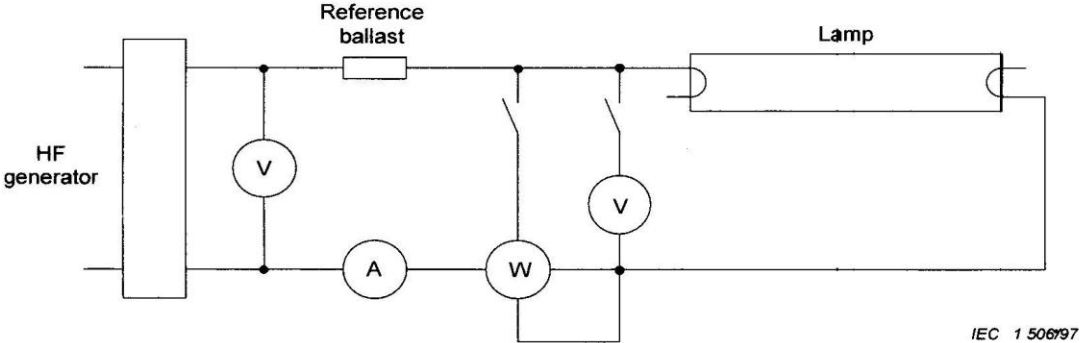

Figure B.3 – Circuit diagram for measurement of electrical and photometric characteristics for lamps for operation on high frequency
- figure B.3 for lamps for operation on high frequency.
In the test circuit for lamps for operation on high frequency, given in figure B.3, connections shall be as short and straight as possible to avoid parasitic capacitance. The parasitic capacitance parallel to the lamp shall be less than 1 nF.
The lamp shall be tested in the appropriate circuit given in figure B.3. The reference ballast shall be positioned outside the container. After starting, the supply voltage of the reference ballast shall be held constant throughout the measurement.